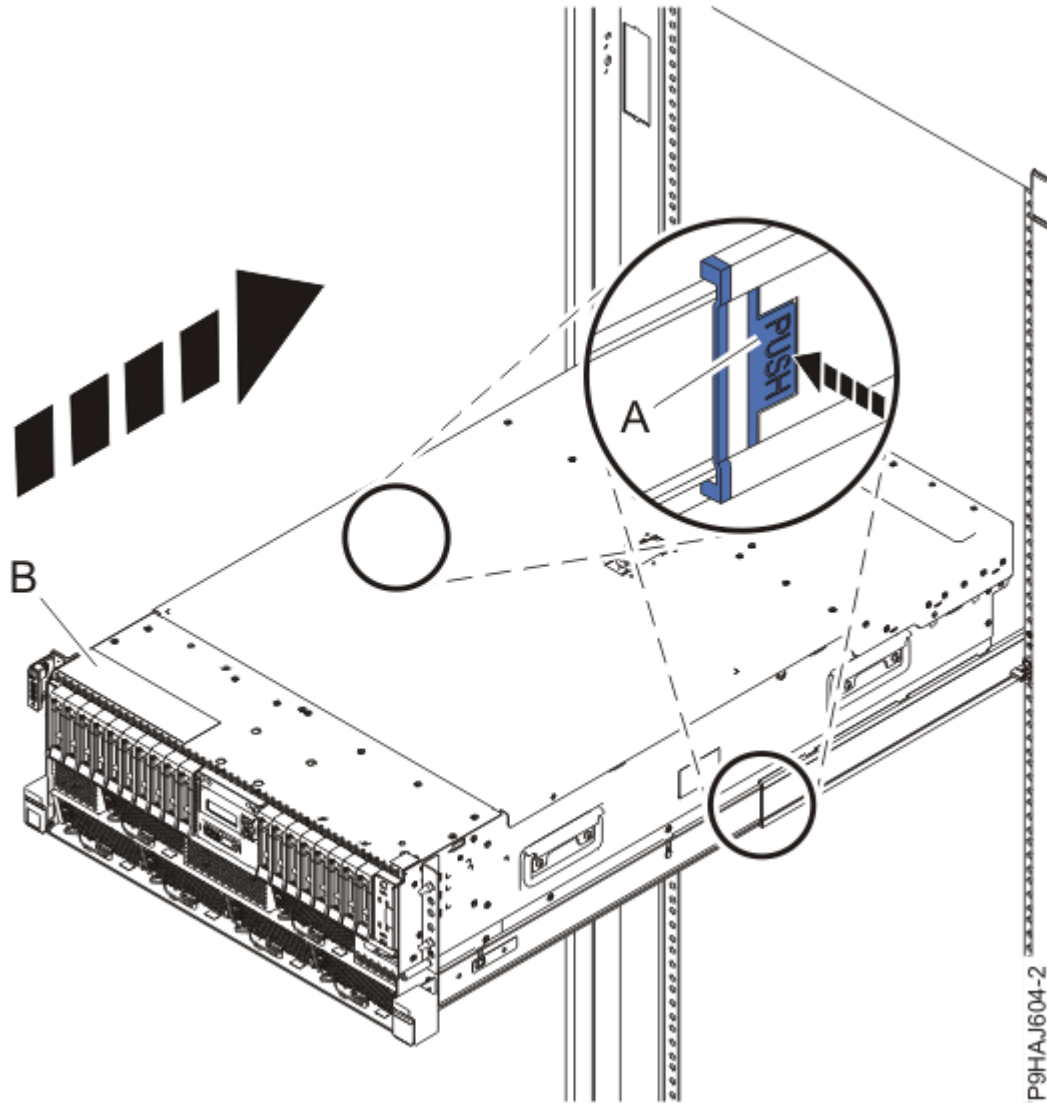

Figure 18. Placing the system into the operating position
3. For a rack-mounted system, unlock the blue rail safety latches (**A**) as shown in Figure 18 on page 21 by pushing them inward.